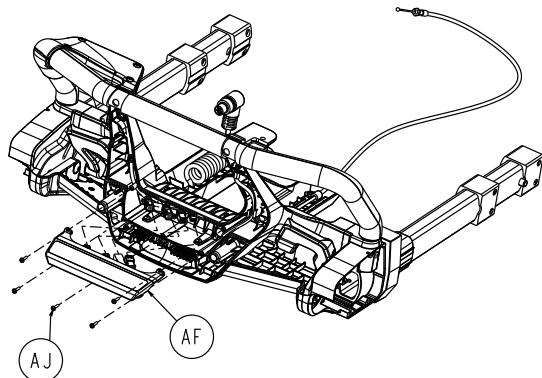

Figure 76 – Remove the light module cable assembly
10. Using a T10 Torx driver, remove the five round washer head tapping screws (AJ) that secure the light module cable assembly (AF) (Figure 76). Remove and save the light module cable assembly. Save the screws.